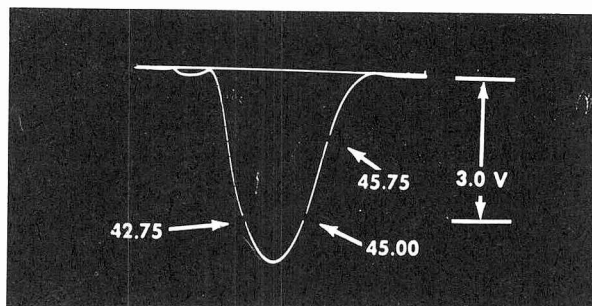
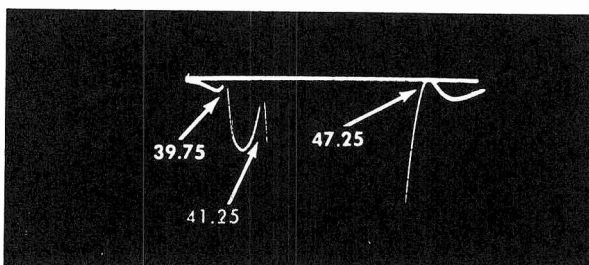

Fig. 3. Overall IF Response Curve
Fig. 4. Expanded View of Traps
Adjust top core of T1 (L1A) for maximum amplitude and position of 45 MHz marker as shown in fig. 3.
3. Adjust bottom core of 2nd IF coil (L5B) and single core of 3rd IF coil (L6) alternately for maximum amplitude, bandpass and symmetry as shown in fig. 3.
Increase scope gain to produce response as shown in fig. 4.
Adjust trap coils L4 (47.25 MHz), L3 (39.75 MHz) and L2 (41.25) for minimum amplitude and positions of marker frequencies as shown in fig. 4. (Note that trap coils L2 and L4 have two cores.)
Decrease scope gain to produce response curve shown in fig. 3. Reduce positive bias to 1.5 volts. Then decrease signal generator gain to produce response shown in fig. 4.
Adjust top core of 2nd IF coil (L5A) for maximum extension (response curve between marker frequencies 39.75 MHz and 41.25 MHz) as shown in Fig. 4).
Adjust mixer collector coil in VHF tuner. Adjust coil for position of 42.75 MHz marker as shown in fig. 3. Repeat steps 1 and 2 above if necessary, to produce proper response, band width and symmetry of curve as required.